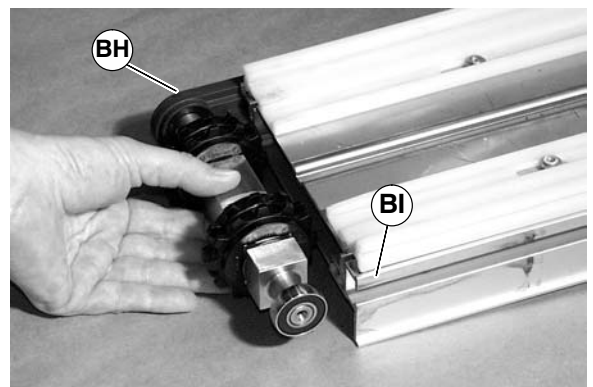

Figure 44
3. Install pulley assembly on conveyor. Slide spindle into installed head plate (Figure 44).